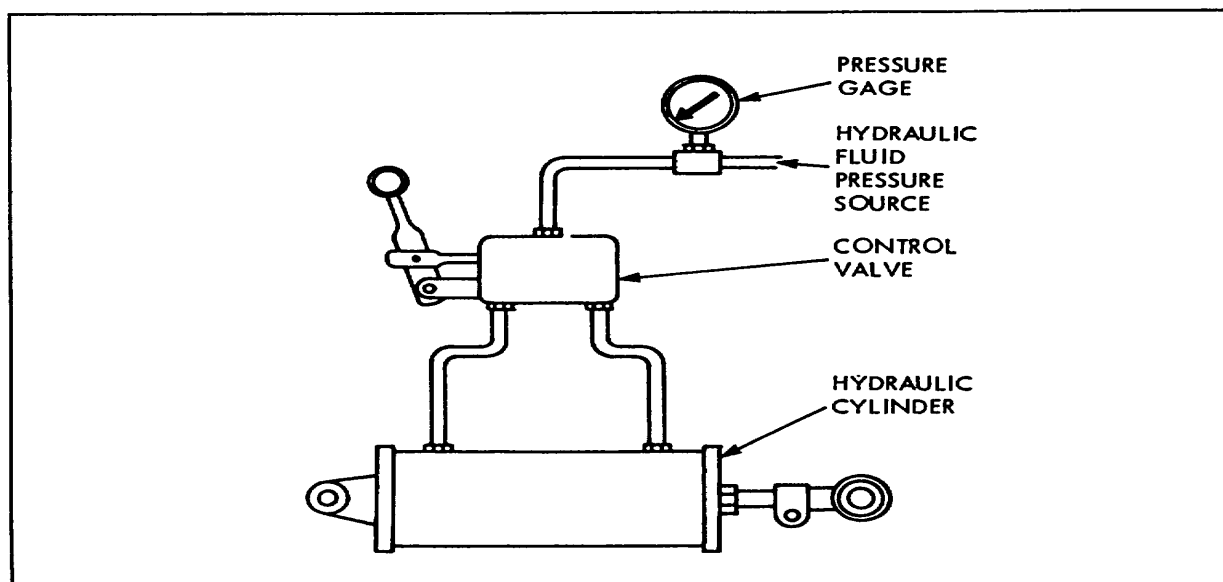

Figure 7-7. Typical Hydraulic Tilt Cylinder Test Setup
1. Connect hydraulic tilt cylinder to test arrangement (figure 7-7). Use approximately 1200 psi in testing.